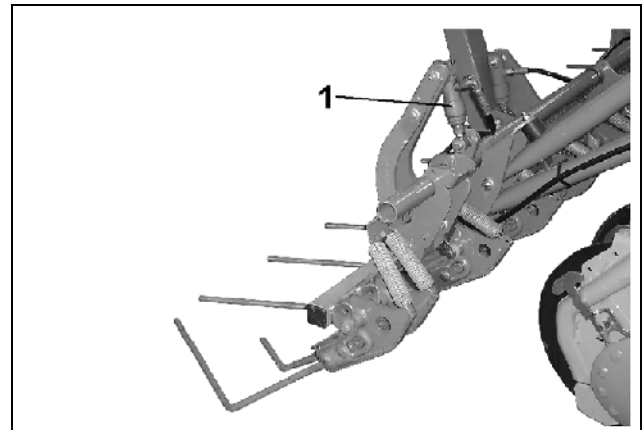
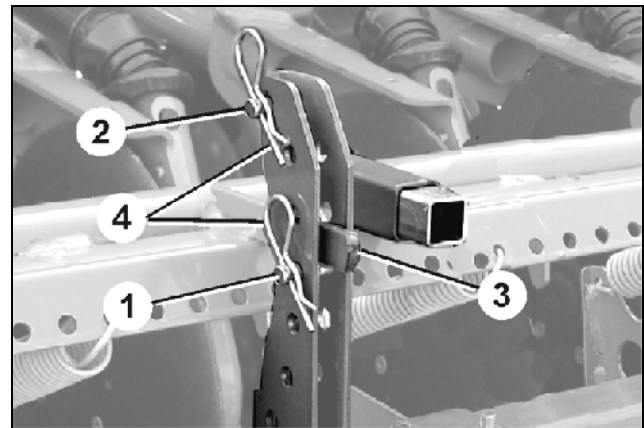

Fig. 99
Fig. 100
When changing from normal soil to heavy soil or vice versa, the coulter pressure is readjusted by a hydraulic ram (Fig. 99/1).
Two pins (Fig. 100/1 and 2) are placed as a stop for the lever (Fig. 100/3) in the setting segment. The lever, which is actuated by the hydraulic ram rests on the pin I (Fig. 99/1) when the hydraulic ram is without pressure and it stops on pin II (Fig. 100/2) when the hydraulic ram has been pressurised.
- Relieve the hydraulic ram (Fig. 99/1) from pressure.
- Insert pin II (Fig. 100/2) into a hole above the lever (Fig. 100/3) in the setting segment and secure by using a clip pin (Fig. 100/4).
- Pressurise hydraulic ram (Fig. 99/1).
- Insert pin I (Fig. 100/1) into a hole in the setting segment under the lever (Fig. 100/3) and secure by using a clip pin (Fig. 100/4).